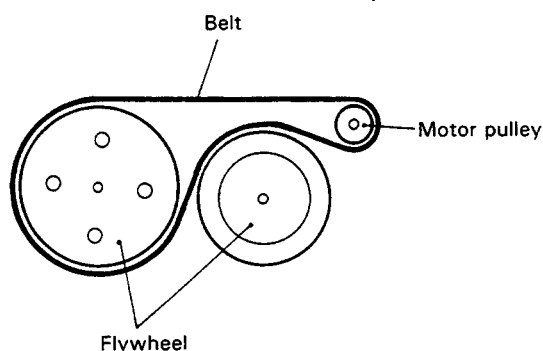

Fig. 7
3. The belt will be disengaged. Fit the belt by the method shown in Fig. 7. Next, detach the flywheel. (The washer can be removed in the direction of the pinch roller.)